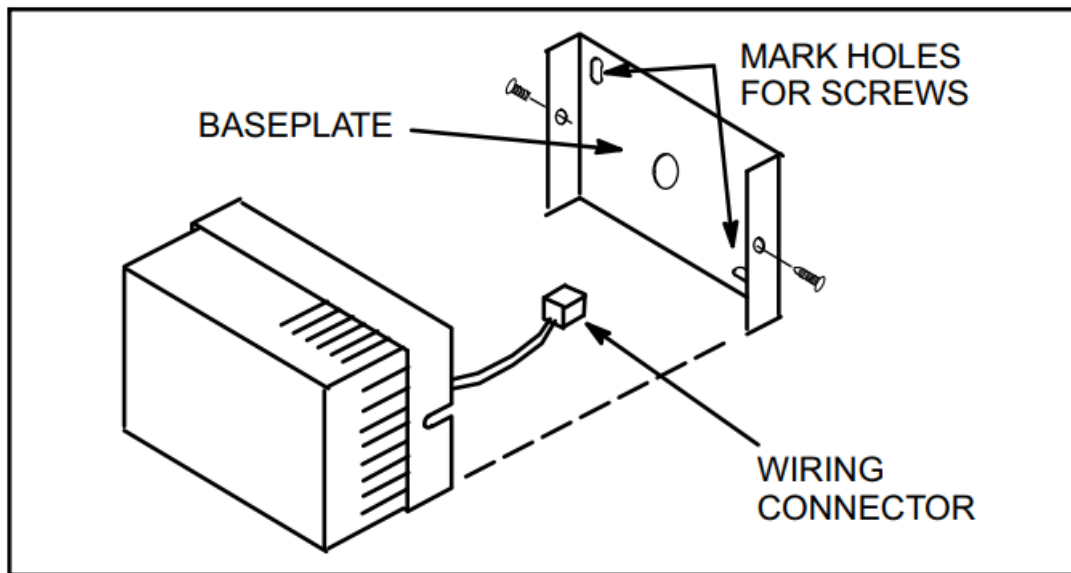

Figure 3. Zone Sensor - 94L61
4. Mark holes for screws. See figure 3 or 4. Remove baseplate and drill holes.